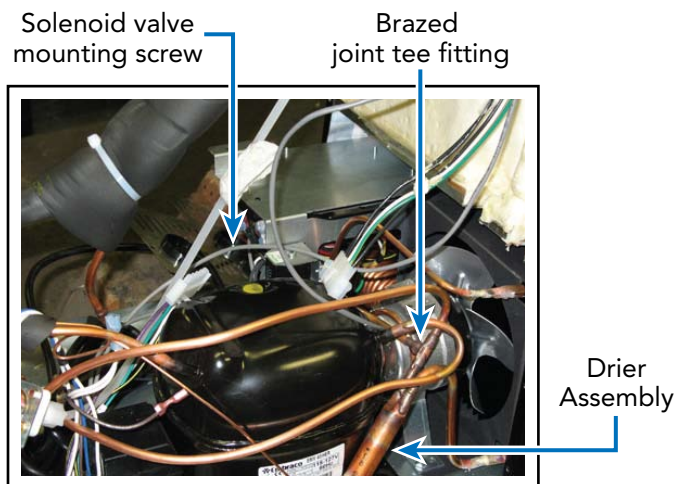

Figure 4
10. Disconnect wires at solenoid, remove solenoid retaining screw, and remove solenoid, (see **Figure 4**).
13. Unbrazed the drier assembly at the end of the condenser (see **Figure 4**). Be sure to cap off after cooling.
24. Unbrazed and remove drier assembly at condenser (see **Figure 4**).
13. Unbrazed tube from hot gas valve at the tee fitting on drier assembly (see **Figure 4**)